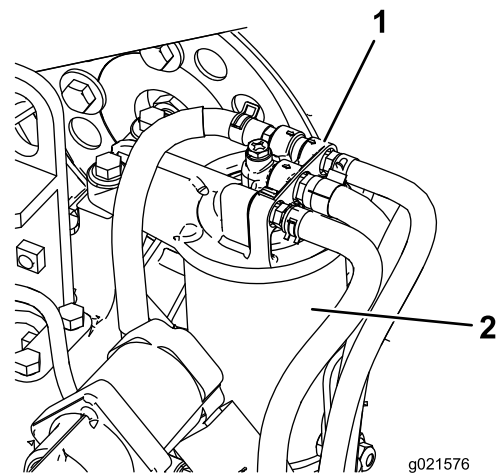

Figure 71
1. Clean the area around the fuel filter head (Figure 71).
2. Remove the filter and clean the filter head mounting surface (Figure 71).